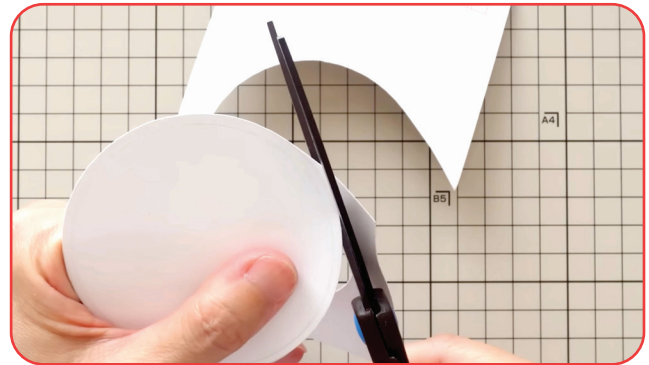

Figure 1.5: Cut out the bigger circle
- Cut out the larger circle (4 cm radius) from the paper (Fig. 1.5)